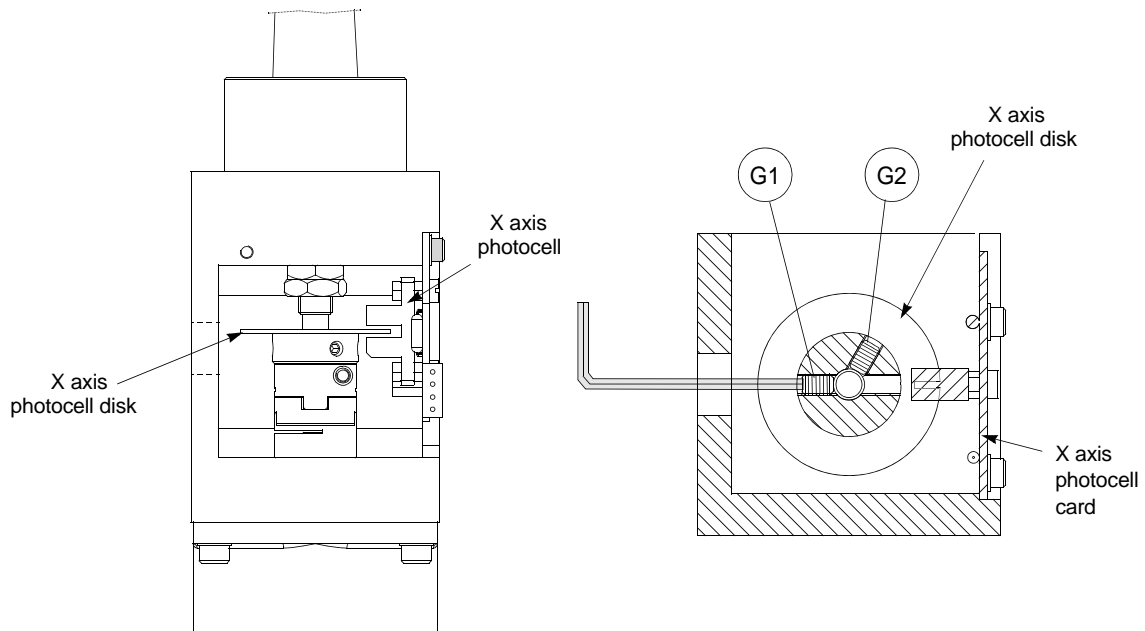

Fig. 33
- 3) loosen the (G1) and (G2) grub screws that secure the X axis photocell disk (fig. 33).
- manually turn the X axis disk (fig. 33) up until the display's description changes from OFF to ON.
- use the provided allen key to tighten the (G1) grub screw (fig. 33).